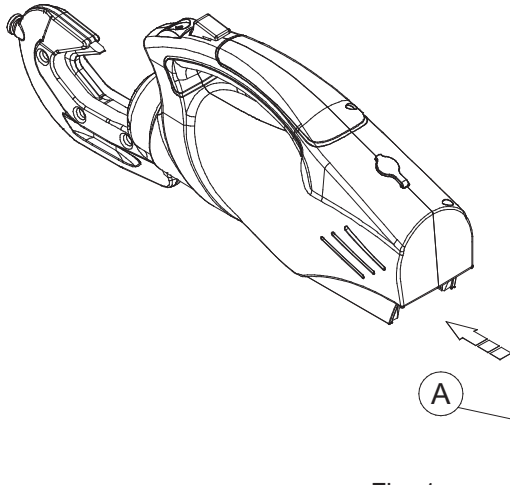

Fig. 1
1. To attach the Battery, slide it into the rear of the Tool until it stops and the Latches (A) engage. (See fig. 1)